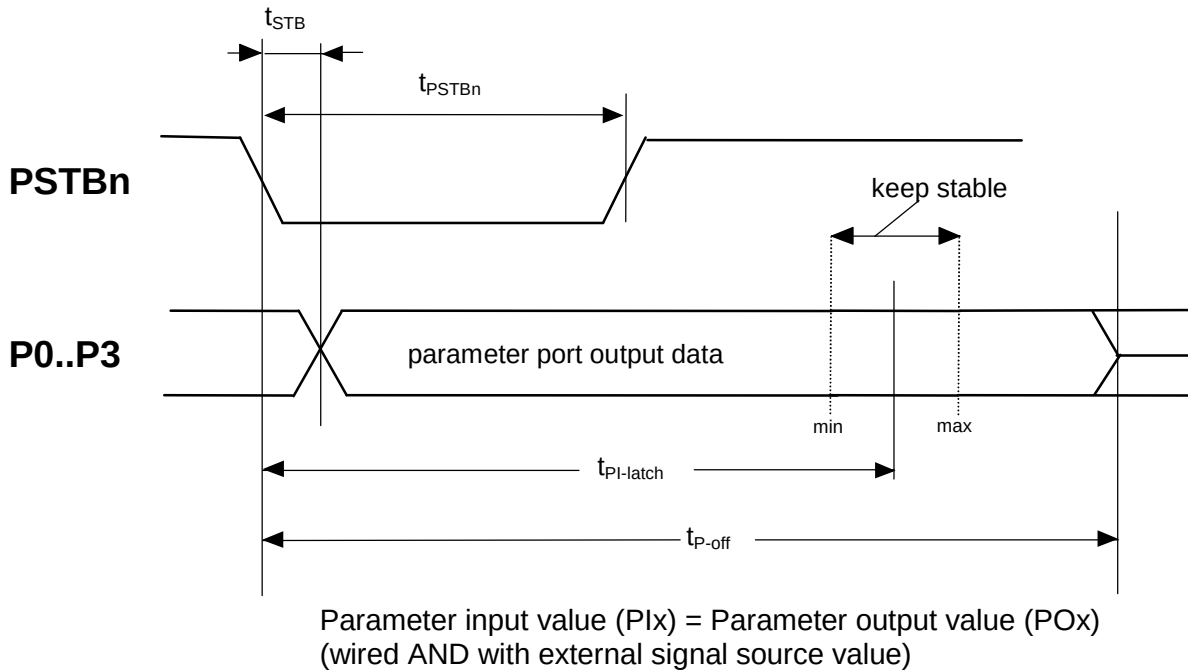

Figure 6: Timing Diagram Parameter Port P0 ... P3, PSTBn
The availability of new parameter output data is signaled by the Parameter Strobe (PSTBn) signal as shown in Figure 6.
- It generates Data and Parameter Strobe signals at the DSTBn an PSTBn pins with timing according to Figure 6 and Figure 7.
- **I/O:** bi-directional port with timing according to Figure 6 and Figure 7